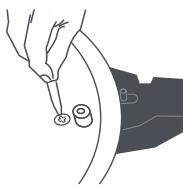

Fig. 10
due to the working/pressure regulator valve (3) being blocked, this safety system will go into action and release steam to lower the pressure inside the cooker. If the safety valve (7) operates at any time, move the cooker off the heat source and let the pressure drop completely. Check the cleanliness and operation of the working/pressure regulator valve (3) (Fig. 10). If the problem persists, have your cooker checked by a Fagor-authorised technical service centre.